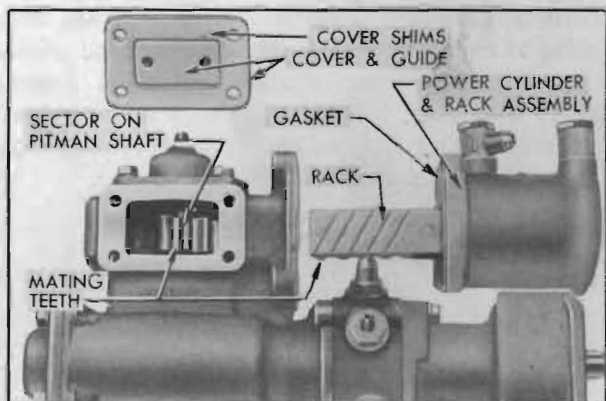

Figure 7-35—Position of Rack and Sector for Installation of Power Cylinder
21. Turn steering shaft clockwise to limit of travel. Push power rack in against stop plate in cylinder adapter. Install power cylinder and rack assembly on gear housing with a *new* gasket. The end tooth of rack must mesh between the two end teeth in pitman shaft sector. See figure 7-35.